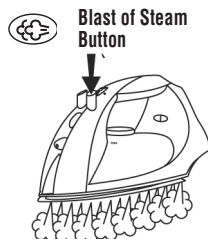

FIGURE 7
2. Firmly press the Blast of Steam Button once, then release (see FIGURE 7). It may be necessary to press the Blast of Steam Button 2 -3 times successively to release the initial burst. **DO NOT HOLD THE BLAST OF STEAM BUTTON DOWN.**